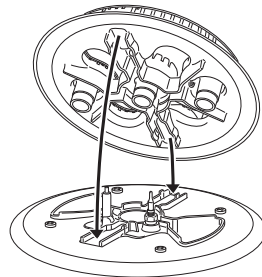

Fig. 38a Fitting the burner rib
- Ensure that you replace the dual burner correctly; the burner rib must be fitted as shown by the arrows in Fig.38a.